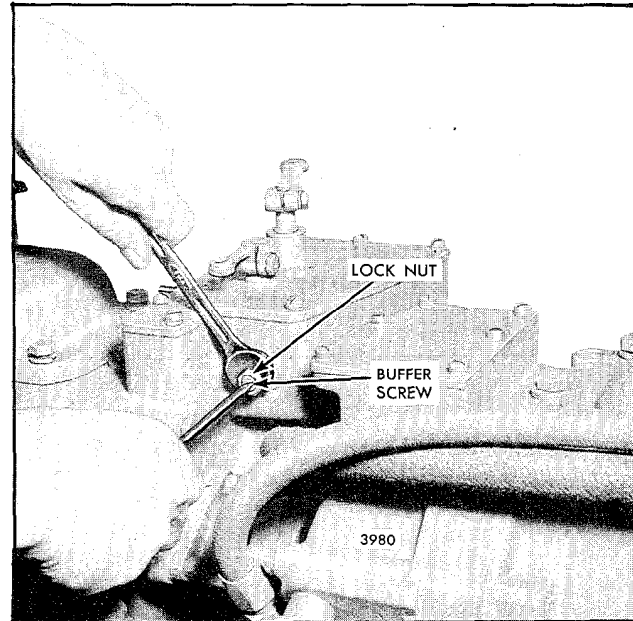

Fig. 10 - Adjusting Buffer Screw
1. With the engine running at normal operating temperature, turn the buffer screw in so it contacts the differential lever as lightly as possible and still eliminates the engine roll (Fig. 10).